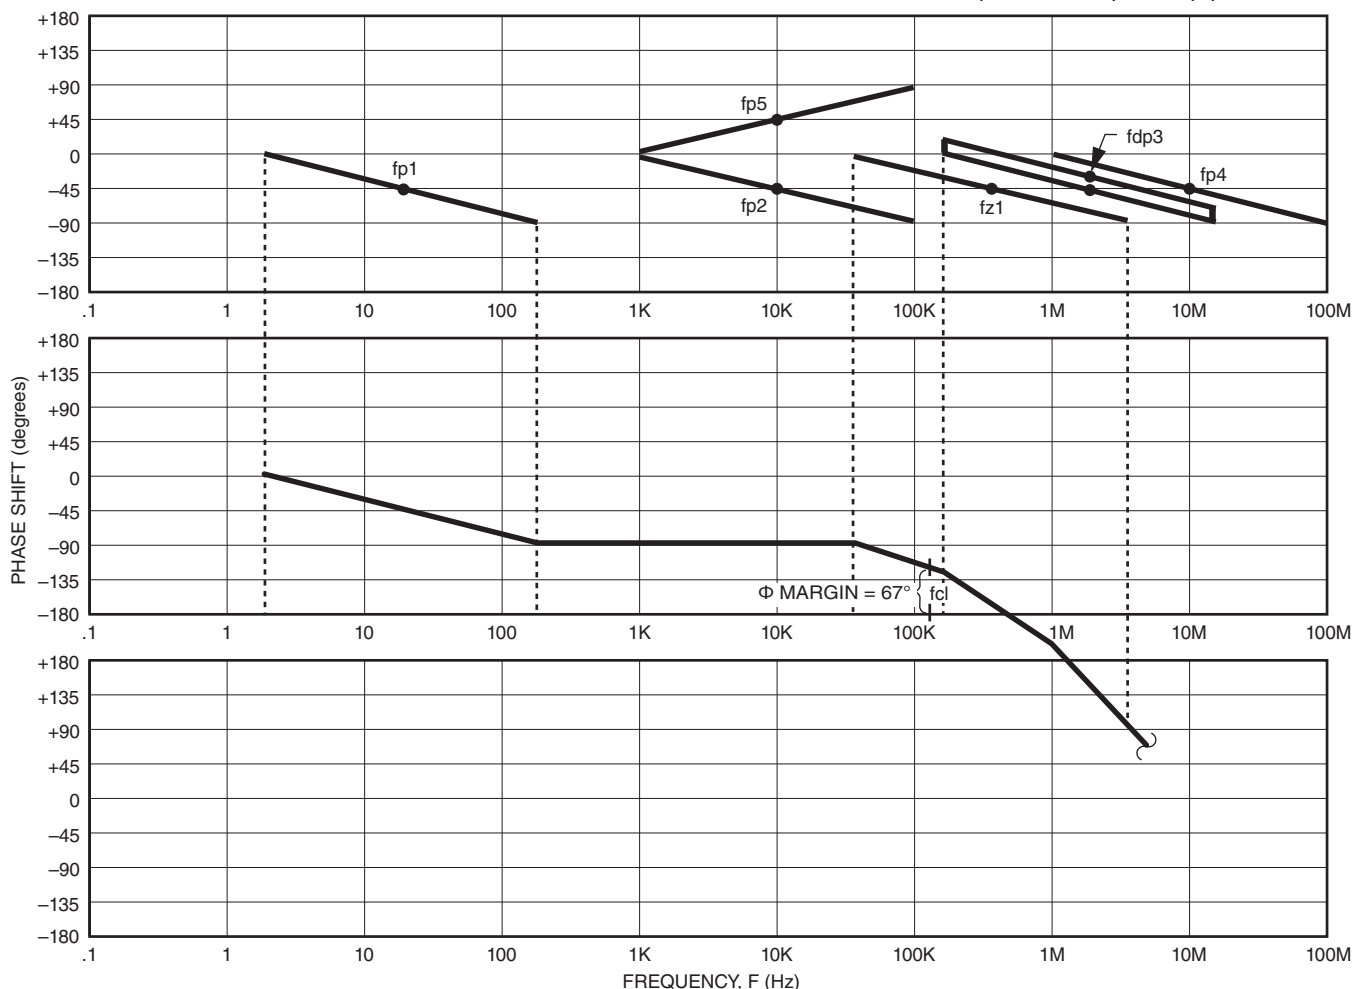

FIGURE 28. FEEDBACK ZERO COMPENSATION FOR CL OPEN LOOP PHASE PLOT FOR STABILITY
STEP 4: Plot open loop phase as in Figure 28. We see we have 67 degrees of phase margin and therefore guaranteed stability.